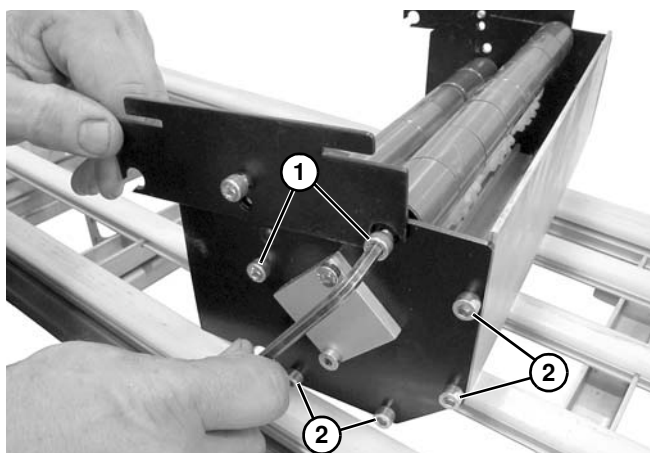

Figure 50
6. Remove two screws (**Figure 50, item 1**) on both sides of the center drive module.
7. Remove four screws (**Figure 50, item 2**) from the non-motor side of the center drive module.